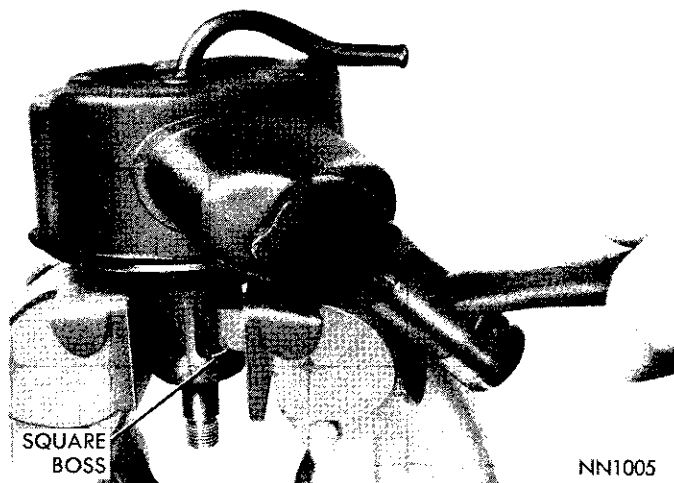

Fig. 5—Removing Reservoir
(1) Remove pulley retaining nut before loosening power steering pump belts. Remove pump from engine as an assembly.
(2) Tap pulley off shaft with plastic hammer.
(3) Remove brackets from pump, drain reservoir and clean exterior of pump with solvent.
(4) Remove key from drive shaft.
(5) Using soft protective jaws, clamp pump (shaft down) in vise between square boss and shaft housing (Fig. 5).
(6) Remove two mounting studs and pressure hose fitting. Gently tap reservoir filler tube back and forth with plastic hammer to loosen. Work reservoir off pump body (Fig. 5). Discard reservoir, two mounting stud and pressure fitting "O" rings.